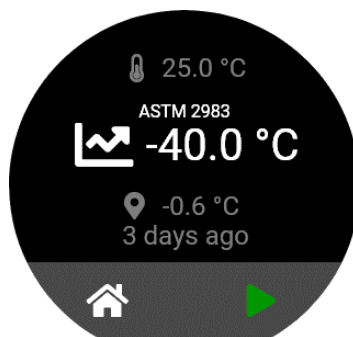

Figure 32: Home screen of the Base Unit
20. Next, turn your attention to the Base Unit display. See Figure 32.